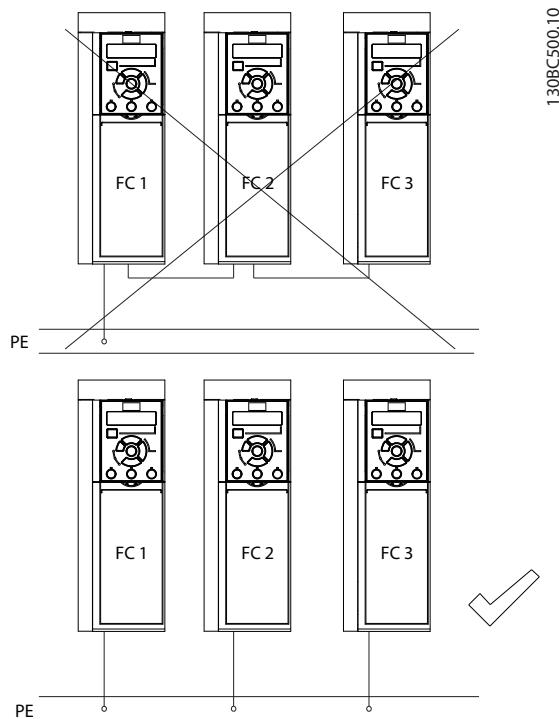

Figure 4.1 Grounding Principle
- Do not ground 1 frequency converter to another in a daisy-chain fashion (see Figure 4.1).